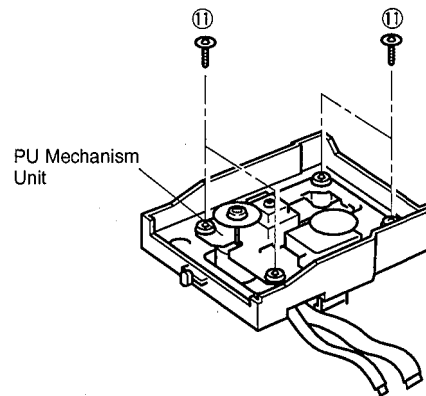

Fig. 6
- b. Pull out 4 Pins (⑪) and then remove the PU Mechanism Unit as shown in Fig. 6.